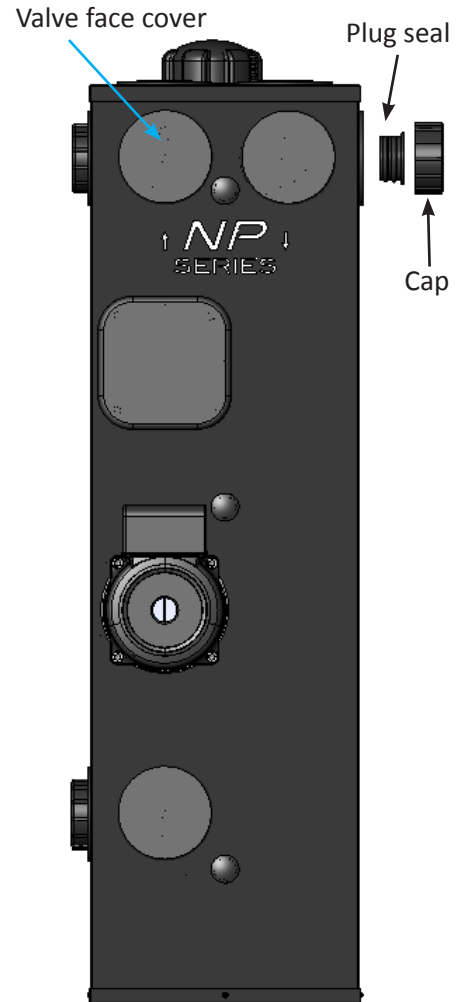

Figure 13: Valve face cover and plug seal/cap
7. Replace valve face covers and plug seals (Figure 13). Be sure to lubricate the O-rings on the plug seals to allow for easier removal during future service.
- 16.** Replace valve face covers and plug seals as shown in Figure 13. Be sure to lubricate the O-rings on the plug seals to allow for easier removal during future service.